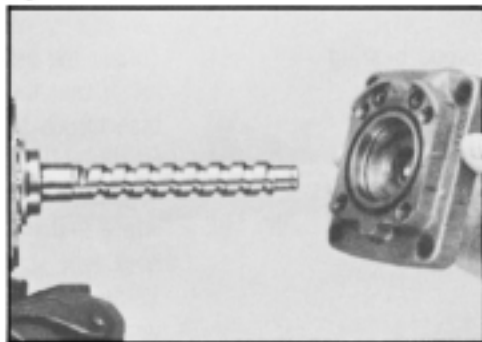

Figure 116
15. Assemble the adaptor (18) onto the rack piston end of worm shaft (23) assembly with the side with four threaded holes against the face of the valve assembly and the cylinder feed holes in adaptor and valve body (15A) aligned. SEE FIGURE 116.